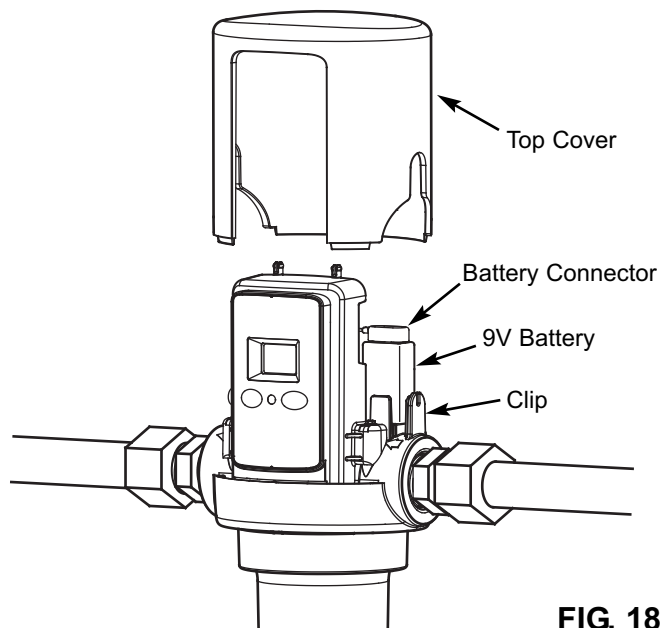

FIG. 18
2. Remove the top cover from the ASF by sliding it upward (See Figure 18).
4. Place the connected battery into the clip provided for it directly above the IN port (See Figure 18).
1. Remove the top cover from the ASF by sliding it upward (See Figure 18 on Page 10).
4. Place the connected battery into the clip provided for it directly above the IN port (See Figure 18 on Page 10).